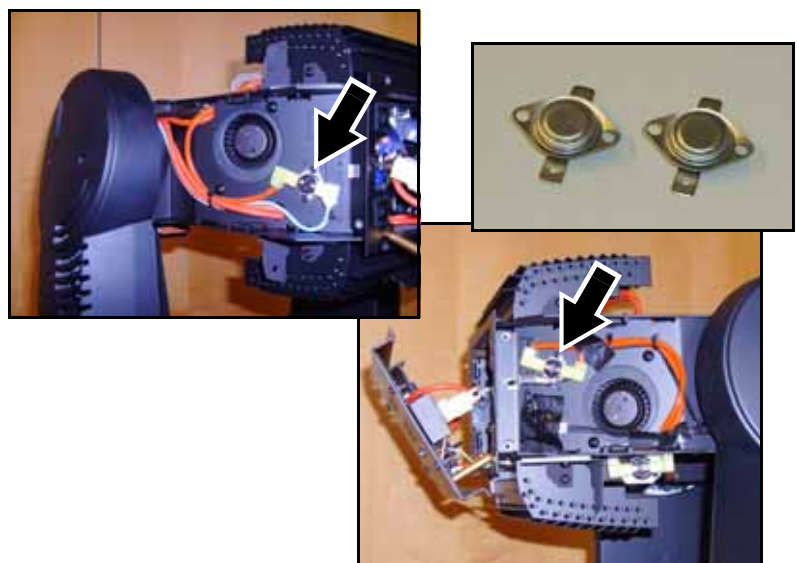

Figure 62
67. See Figure 62. Replace the thermoswitches (arrowed) in both sides of the head with the two new thermoswitches (P/N 05040023) supplied in the Upgrade Kit, re-using the existing screws.